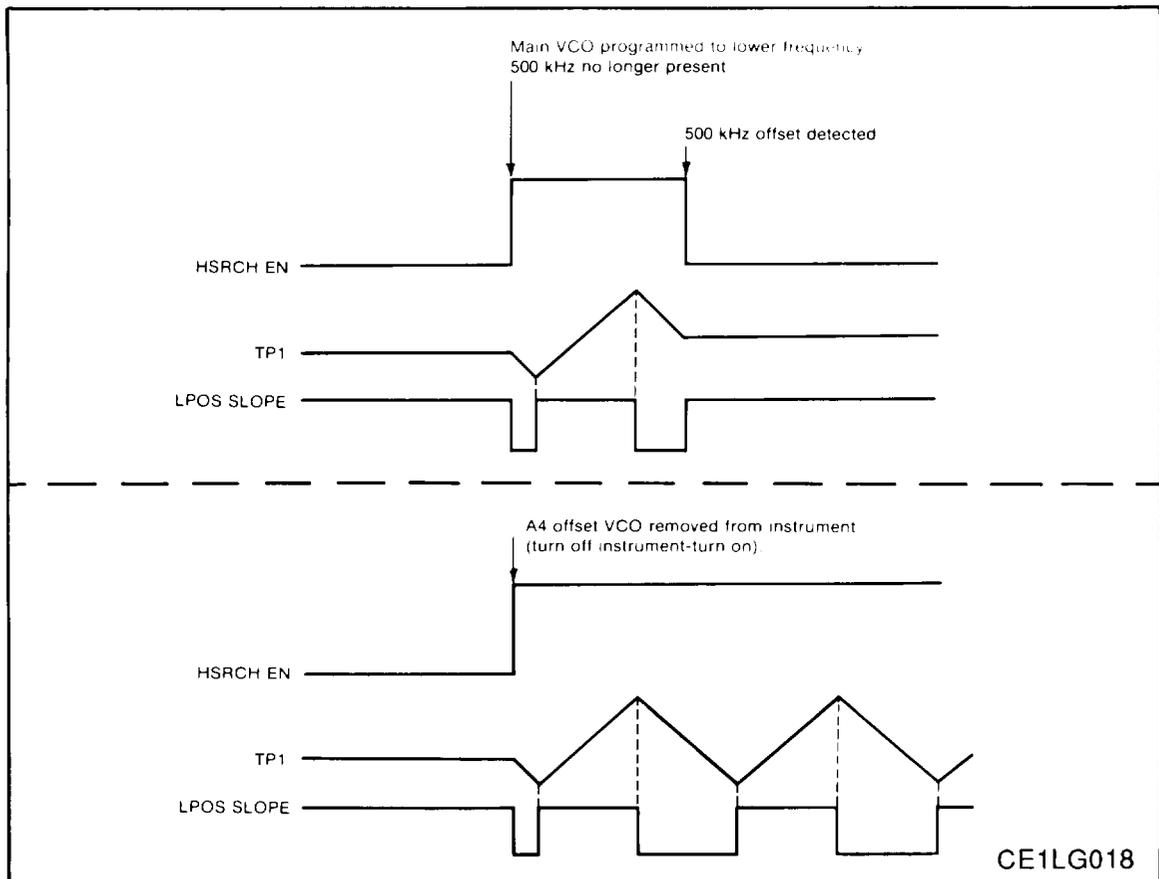

Figure 8-77, Timing Diagram of A6 Search Generator Operation
8-165. When the sweep ramp present at U1D(12) crosses above the upper threshold of 1.6 volts, the output of U1D(11) goes low, U1B(6) goes high and U1A(3) goes low. This causes Q4 to conduct which forward-biases CR4. Since U1B(6) is high, CR3 is reversed-biased. Current is now supplied through CR4 to the integrating capacitor C10. This causes the output of U2(6) to decrease linearly. Since U1A(3) is low, LPOS Slope is TTL low and the loop is allowed to lock once a 500 kHz difference frequency is detected on A7. When lock is achieved, HSRCH EN goes TTL low which causes U1B(6) and U1A(3) to both go TTL high, thereby reverse-biasing both CR4 and CR3. The voltage at the output of U2(6) is therefore maintained at that level which achieved lock. The timing diagram for this operation is shown in Figure 8-77.